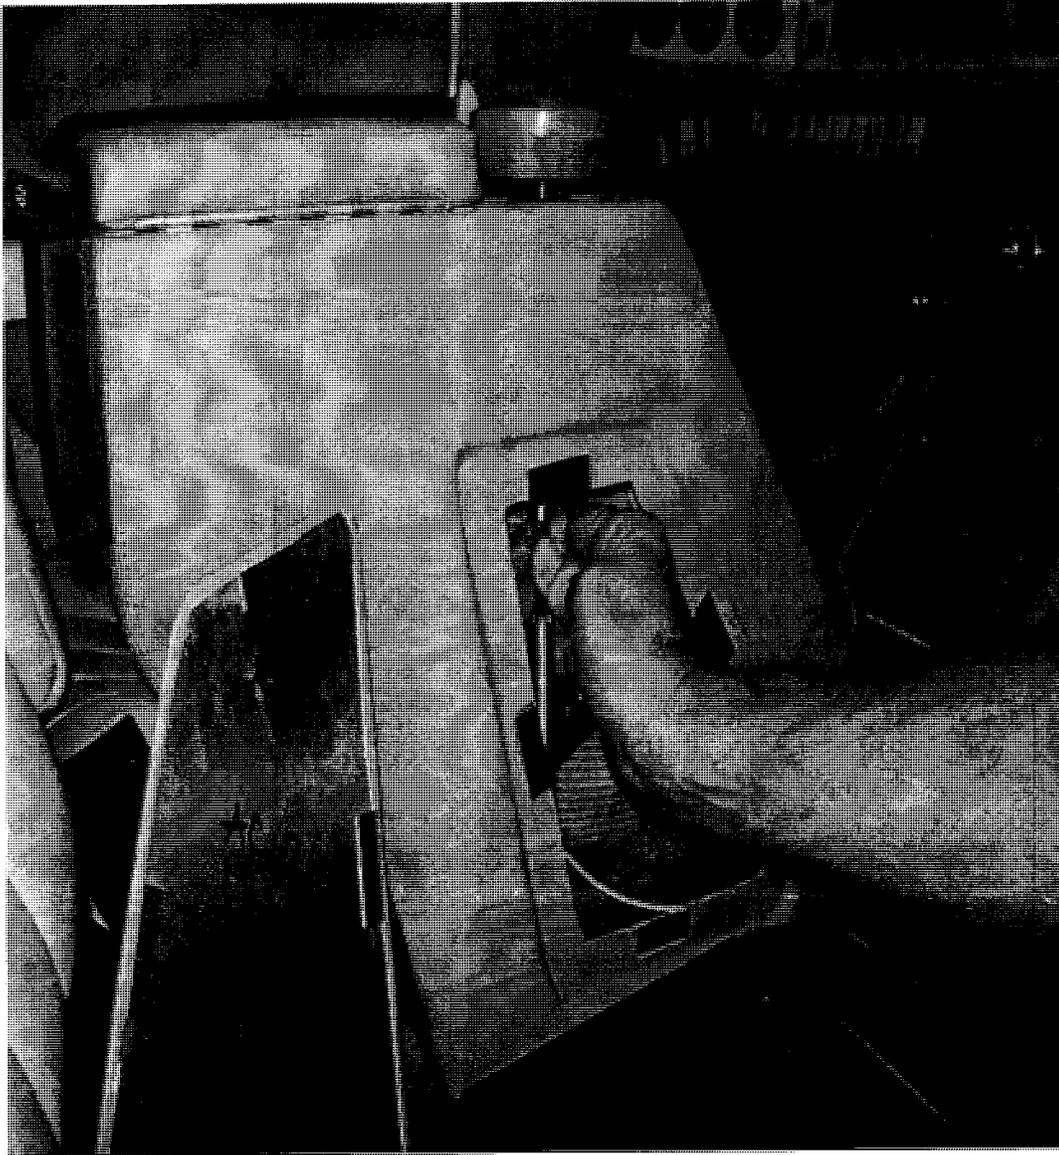
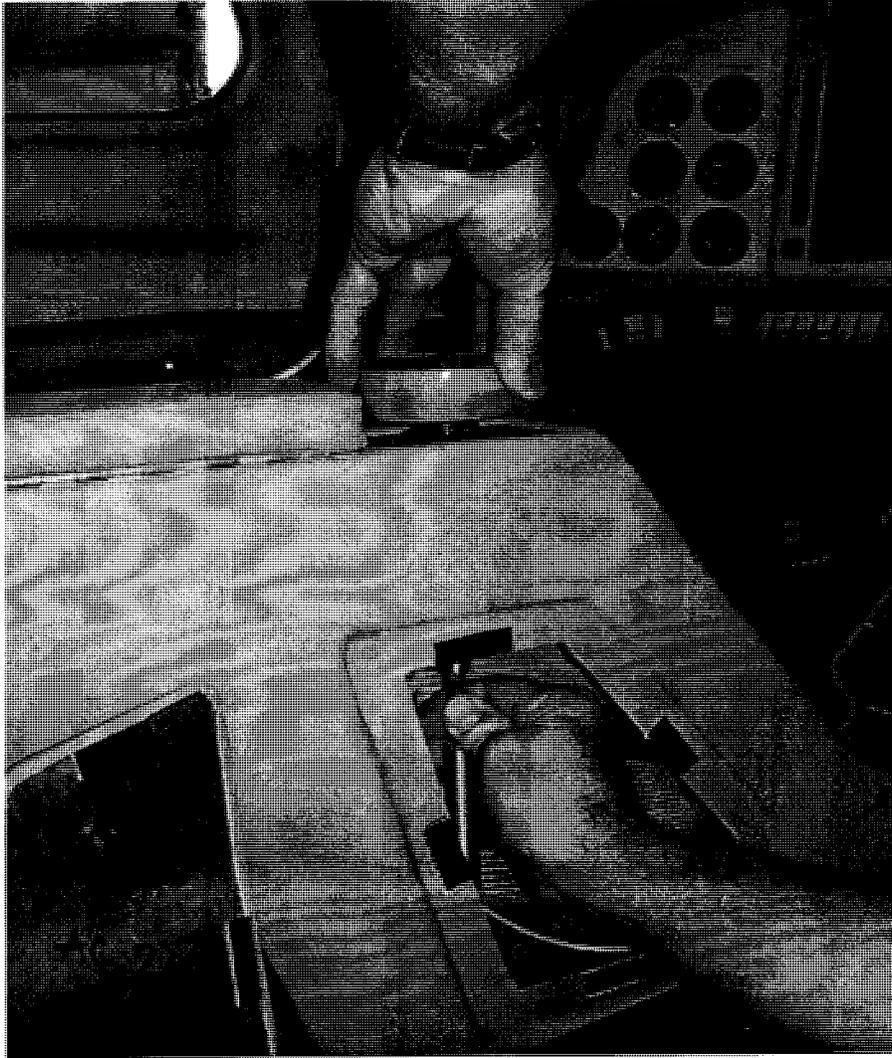

Figure 1
Figure 2
3. With one hand grab the fuel selector shaft through the access panel hole and push on the shaft. With the shaft pushed up rotate the fuel selector knob with the opposite hand checking for security of the knob assembly to the shaft. Reference **Figure 1** and **Figure 2**.
4. Visually inspect the under side of the fuel selector knob assembly to insure that the three (3) retaining screws are installed securely, evidenced by the presence of three screw head protrusions with no protrusion of the screw shank.